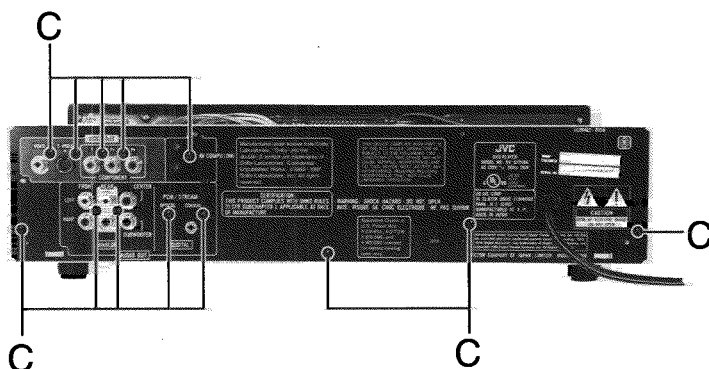

Fig. 2
■ Removing the Rear Panel and Power Cable (See Fig.2 and 3)